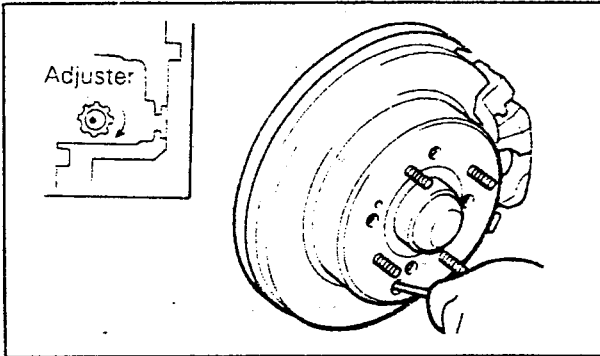

Fig. 13.14. — Adjusting the brake shoes inside the brake discs on models with disc brakes on the rear wheels.
- Rotate the rear wheel hubs to the position shown in Fig. 13.14 and remove the plug from the adjusting hole in the brake disc. Insert a screwdriver and operate the small adjuster wheel inside the disc in the direction of the arrow (inset, top left) until the brake shoes lock the brake disc. Carry out the operation on both sides of the vehicle.